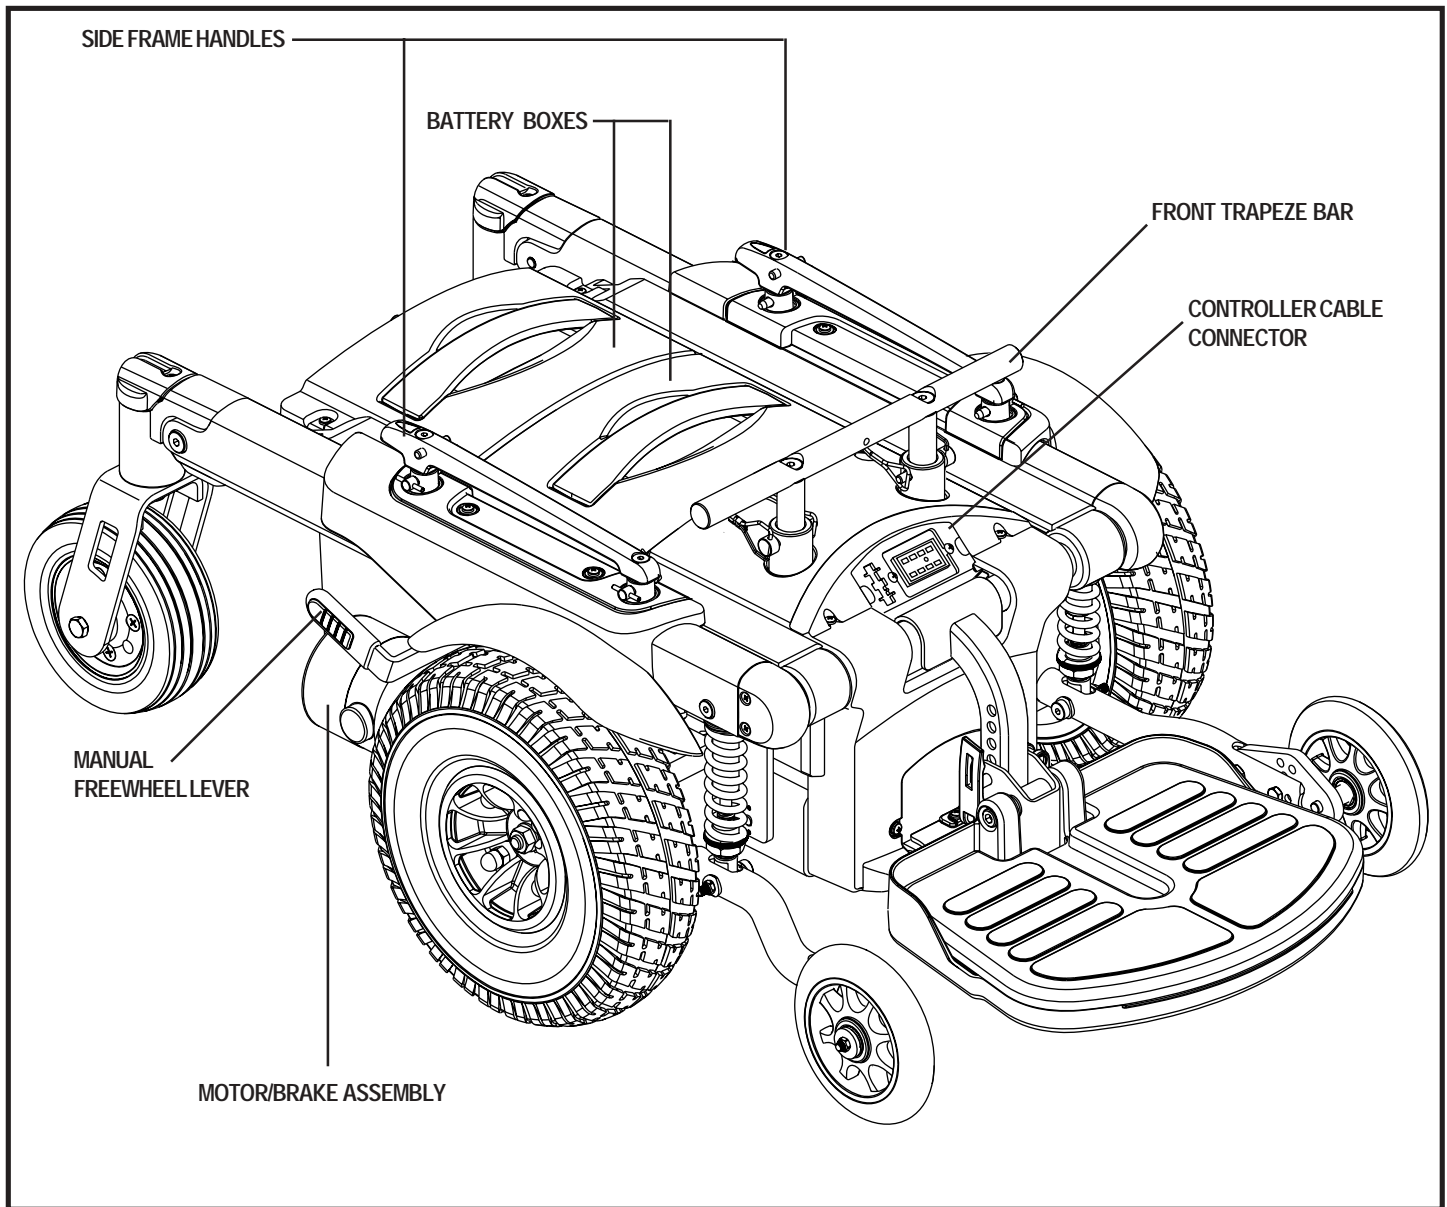

Figure 6. The Quantum 1107 Power Base
The electrical components consist of the controller assembly, the batteries and the motors. The batteries, motors and controller power module (if equipped) are located on the power base assembly. See figures 6 and 7. The controller is located on the seat assembly. Connectivity between the controller and the motors, the batteries and the battery charger is provided by one or more wiring harnesses.
Your power chair has a manual freewheel lever on each motor. See figure 6. Manual freewheel levers enable you to disengage the drive motors from the gearboxes and manoeuvre the chair manually.
2. Disconnect the controller. See figure 6.
2. Disconnect the controller from the power base. See figure 6.